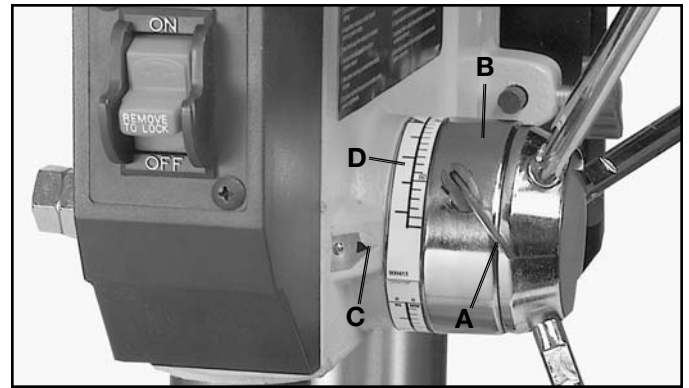

Fig. 32
1. Loosen lock screw (A) Fig. 32, and rotate housing (B) until the pointer (C) lines up with the desired depth indicated on scale (D). Then tighten lock screw (A).
2. All holes will then be drilled to the exact depth as indicated on scale (D) Fig. 32. **NOTE:** Scale (D) is calibrated in both inches and millimeters.